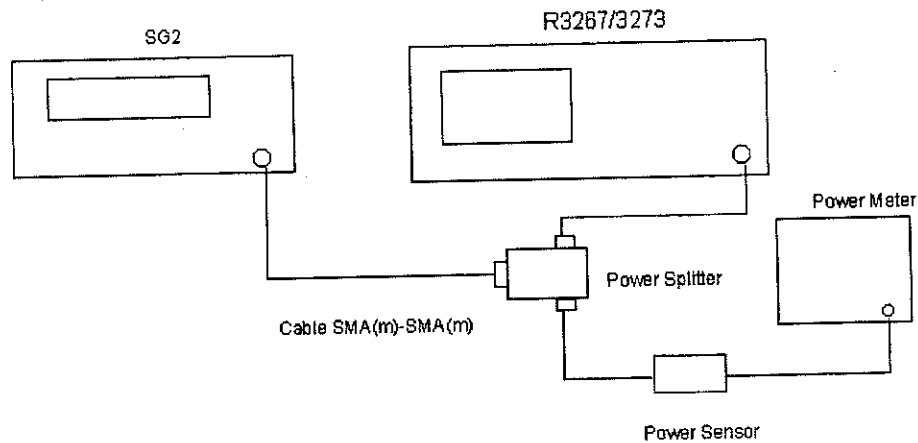

Figure 3-11 Setup of a Image, Multiple, Out of Band Spurious Test
3. Connect equiRF Power Meterent as shown in Figure 3-11.